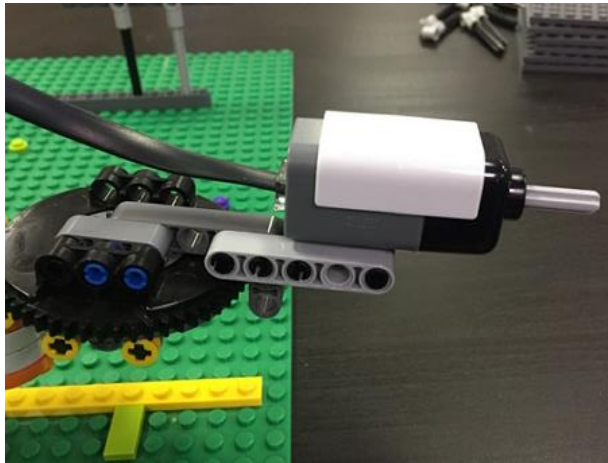

Fig. 1
- ❑ Assemble a force sensor on manipulator's tip (see fig. 1).